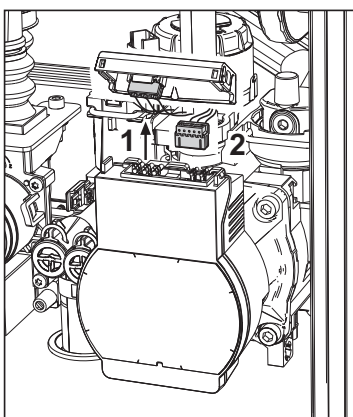

fig. 39
- Pull up the security tab "1" of fig. 39 then remove both electrical connections to the pump "2".